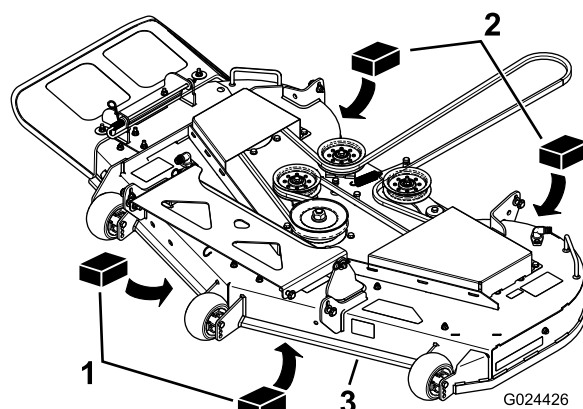

**Figure 62**
3. Carefully rotate the blades so they are facing front to rear (Figure 62).
4. Measure from the tip of the front blade to the flat surface and the tip of the rear blade to the flat surface (Figure 62).